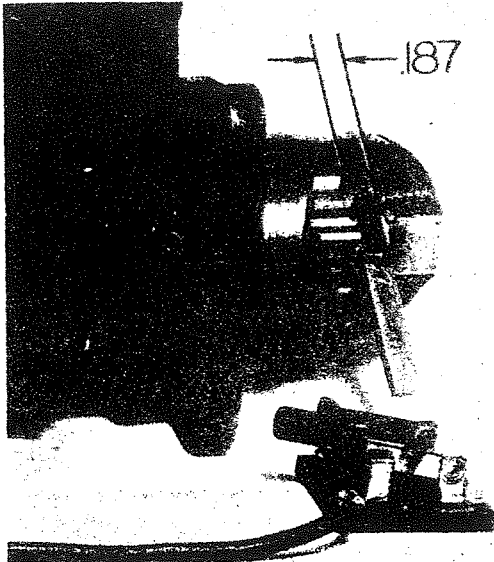

Figure 36
- 10.2 Turn the switch on and measure the gap between the face of the pinion and the thrust washer. Proper gap is 3/16" (.187"). See figure 36. To perform these procedures the cranking motor is not wired as on a